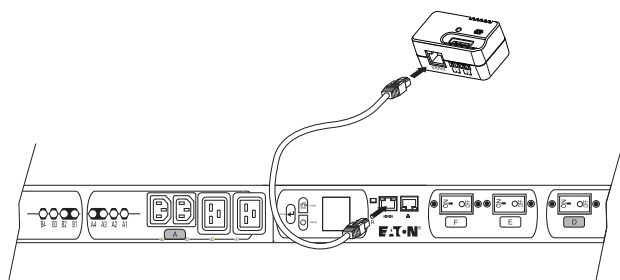

Figure 19. Connecting the EMP
3. Locate the EMP Ethernet cable. Connect one end of the cable to the RJ-45 connector on the EMP, then connect the other end of the cable to the RS-232 connector on the ePDU. See Figure 19.